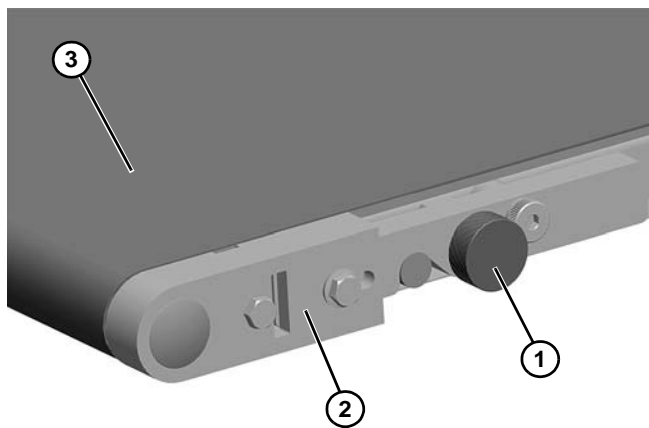

Figure 2
1. Unlock spring plunger (**Figure 2, item 1**) by rotating 90 degrees. Pull spring plunger out and tip up the idler tail (**Figure 2, item 2**).
2. Remove the belt (**Figure 2, item 3**) from the idler tail and drive tail.
4. Tip down idler tail (**Figure 2, item 2**) to the run position. Pull spring plunger (**Figure 2, item 1**) out to lock the idler tail into final position. Rotate the spring plunger 90 degrees to lock.